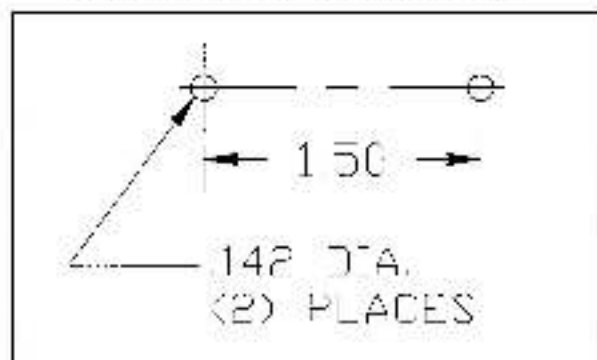

Figure 1.
2. Mount the fuse block in a selected location. Refer to Figure 1 for mounting hole detail.